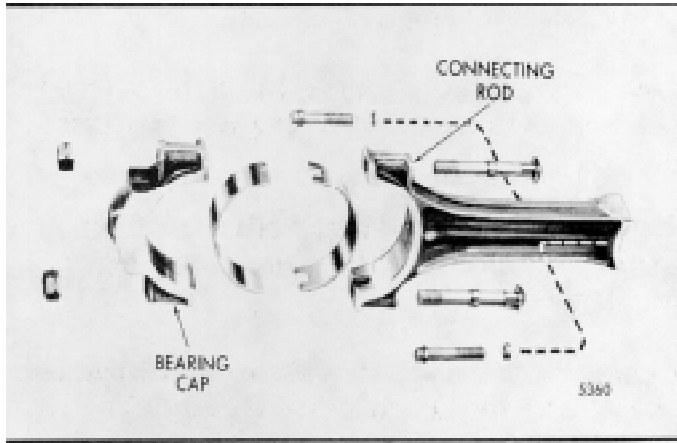

Fig. 11 - Connecting Rod Details
**IMPORTANT:** When peripheral abutment type ring expanders (Fig. 11) are used, install them with the legs of the free ends toward the top of the piston. With the free ends pointing up, a noticeable resistance will be encountered during installation of the piston if the ends of the
The connecting rod (Fig. 11) is forged to an "I" section with an open or saddle type contour at the upper end and a bearing cap at the lower end. The bearing cap and connecting rod are forged in one piece and bored prior to separation.